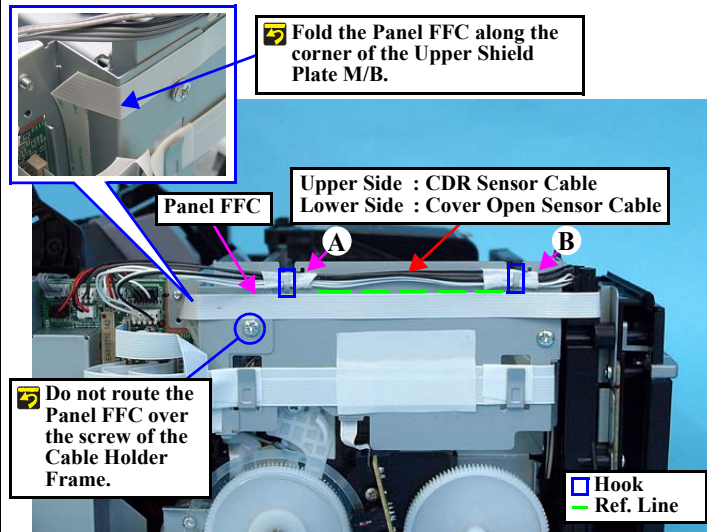

Figure 1-31. Routing the Cables
- When routing the FFCs and cables, follow the procedures below referring to Fig.1-31.